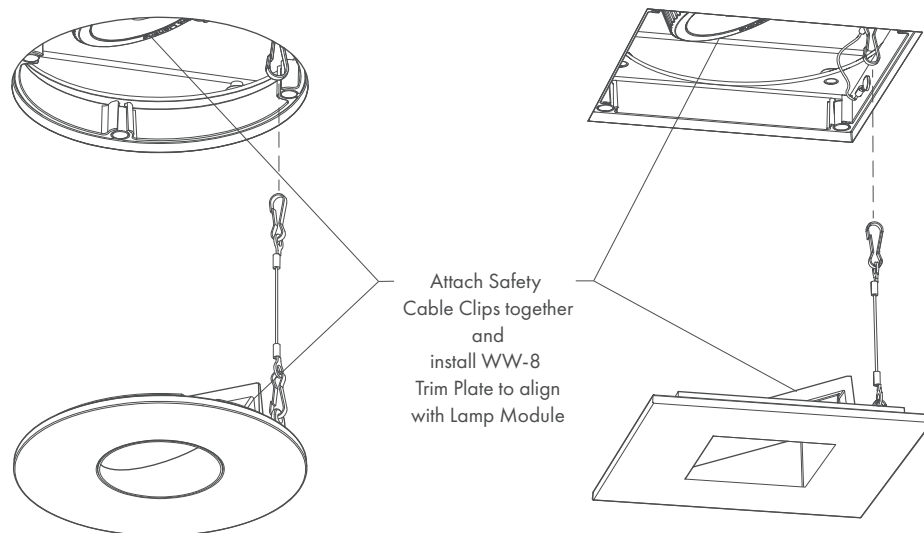

FIG 6.2 Align and Install WW-8 Trim Plate
STEP 3 Install WW-8 Trim Plate to be aligned to Lamp Module - **FIG 6.2.**